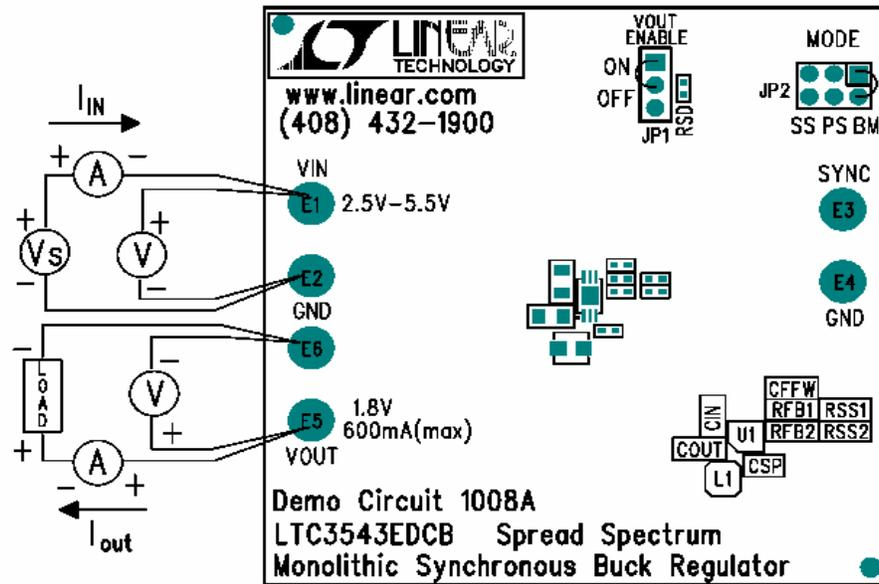

Figure 2. Proper Equipment Measurement Set-Up
Demonstration Circuit 1008 is easy to set up to evaluate the performance of the LTC3543. For proper measurement equipment configuration, set up the circuit according to the diagram in **Figure 2**. Before proceeding to test, insert shunts into the OFF position of header JP1, which connects the RUN pin to ground (GND), and thus, shuts down the circuit, and the pulse-skip position (PS) of header JP2.
With the DC1008 set up according to the proper equipment measurement configuration in **Figure 2**, apply 3.3V at Vin (Do not hot-plug Vin or increase Vin over the rated maximum supply voltage of 5.5V, or the part may be damaged.). Measure Vout; it should read 0V. If desired, one can measure the shutdown supply current at this point. The supply current will be approximately 1 μ A, or less, in shutdown.